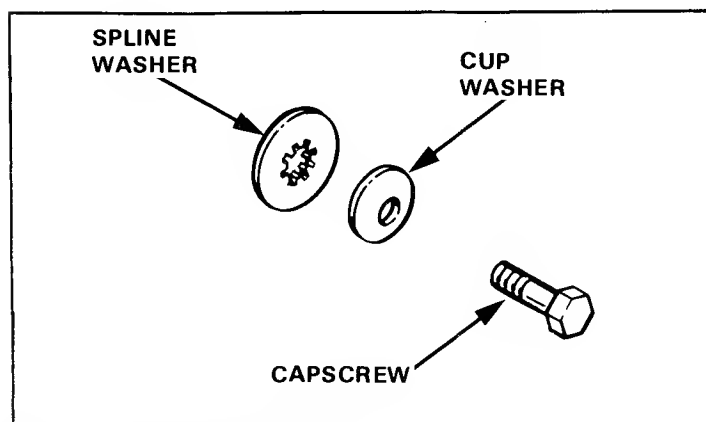

Figure 16. Blade Hardware
1. Reinstall the blade(s) with the tabs pointing upward. Install the spline washer, cup washer, and capscrew (see figure 16). Be sure the splines on the spline washer are engaged with the shaft splines. Be sure cup washer is installed with the concave side up.